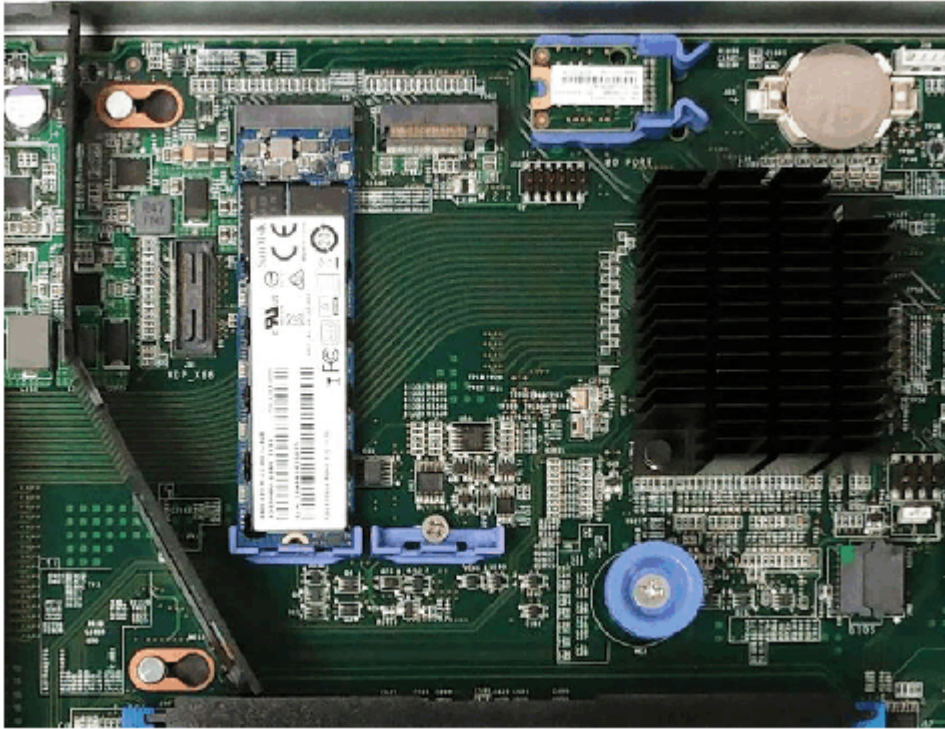

Figure 91. Locating the TPM
6. Locate the TPM, which is between the boot drive and CMOS battery, as shown in Figure 91 on page 143.